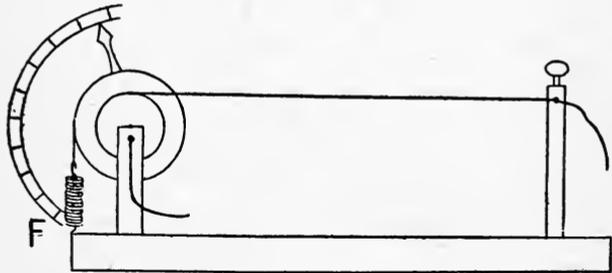

FIG. 33.
94. Fig. 33 is the diagram of a simple instrument for measuring a current by means of the expansion of a wire by